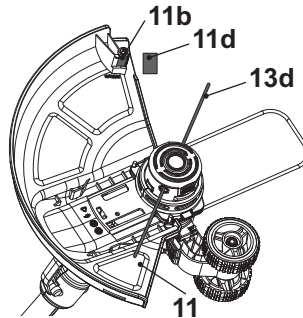

Fig. 15
The guard (11) protects the operator against thrown objects during operation. It is equipped with a knife (11b) that cuts the trimming line (13d) (Fig. 15).